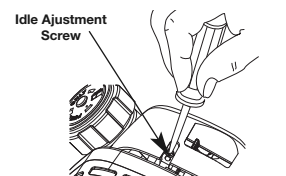

Fig. 33
The idle speed of the engine is adjustable. An idle adjustment screw is between the air filter cover and the engine starter housing (Fig. 33).
2. Release the throttle trigger and let the engine idle. If the engine stops, insert a small phillips or flat blade screwdriver into the hole in the air filter/muffler cover (Fig. 33). Turn the idle speed screw in, **clockwise**, 1/8 of a turn at a time (as needed) until the engine idles smoothly.